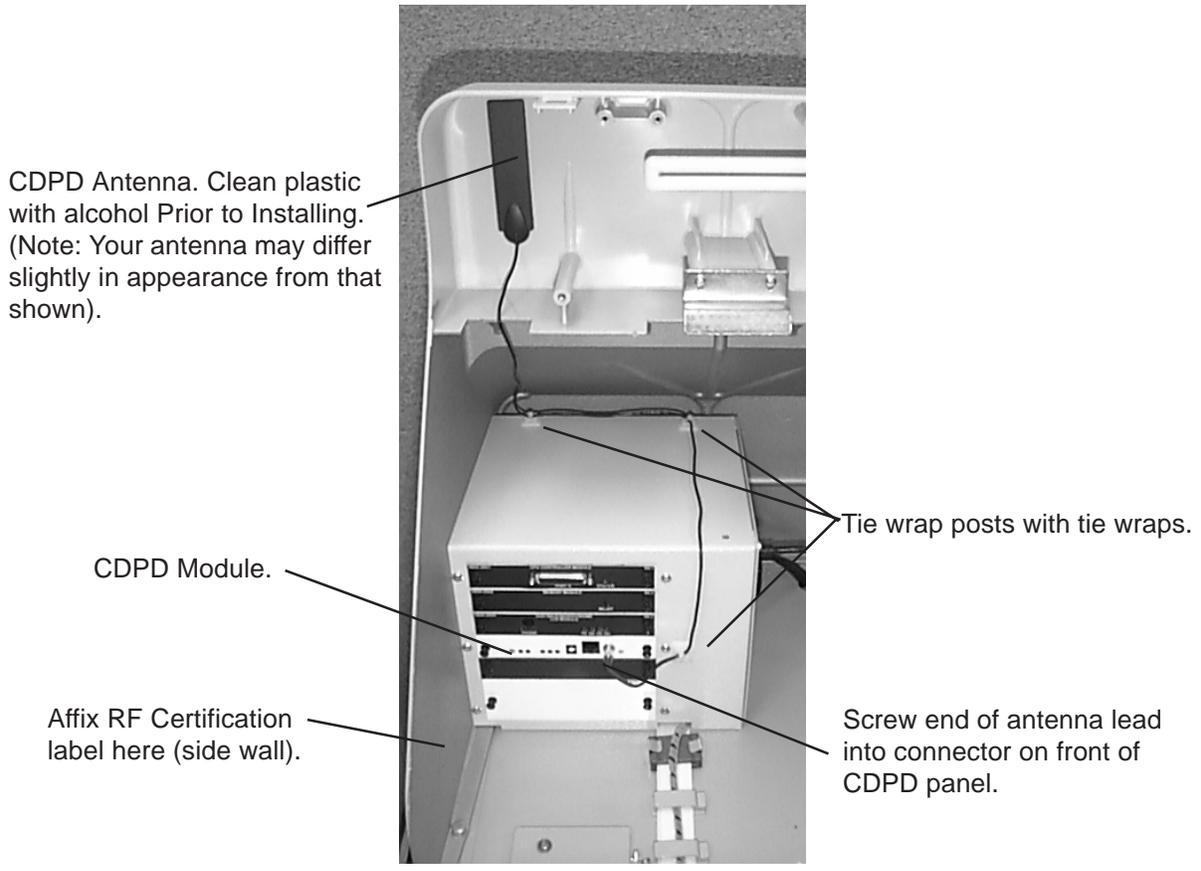
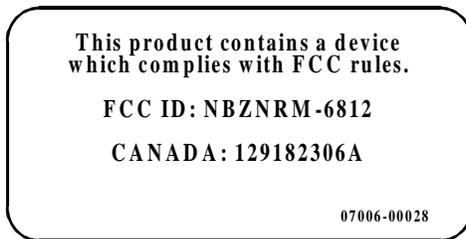

Figure 1. Complete Installation of the CDPD Module.
Figure 2. RF Certification Label.
6. Open the alcohol pad and thoroughly wipe the area directly to the left of the fluorescent bulb. (See Figure 1 for the proper antenna placement).
7. Remove the protective film from the back of the antenna and position the antenna on the back housing as shown in Figure 1 (Antenna may differ slightly in appearance from that shown). Press firmly down on each end of the antenna to securely attach it to the back housing.
NOTE: THE ANTENNA MUST FACE UP AS SHOWN IN FIGURE 1 FOR PROPER OPERATION.
11. Affix the RF Certification Label (see Figure 2) to the side wall of the hood enclosure (see Figure 1 for the recommended location of the label).
12. Attach the sign back onto the unit. Use the reverse of steps (2) and (3) above.